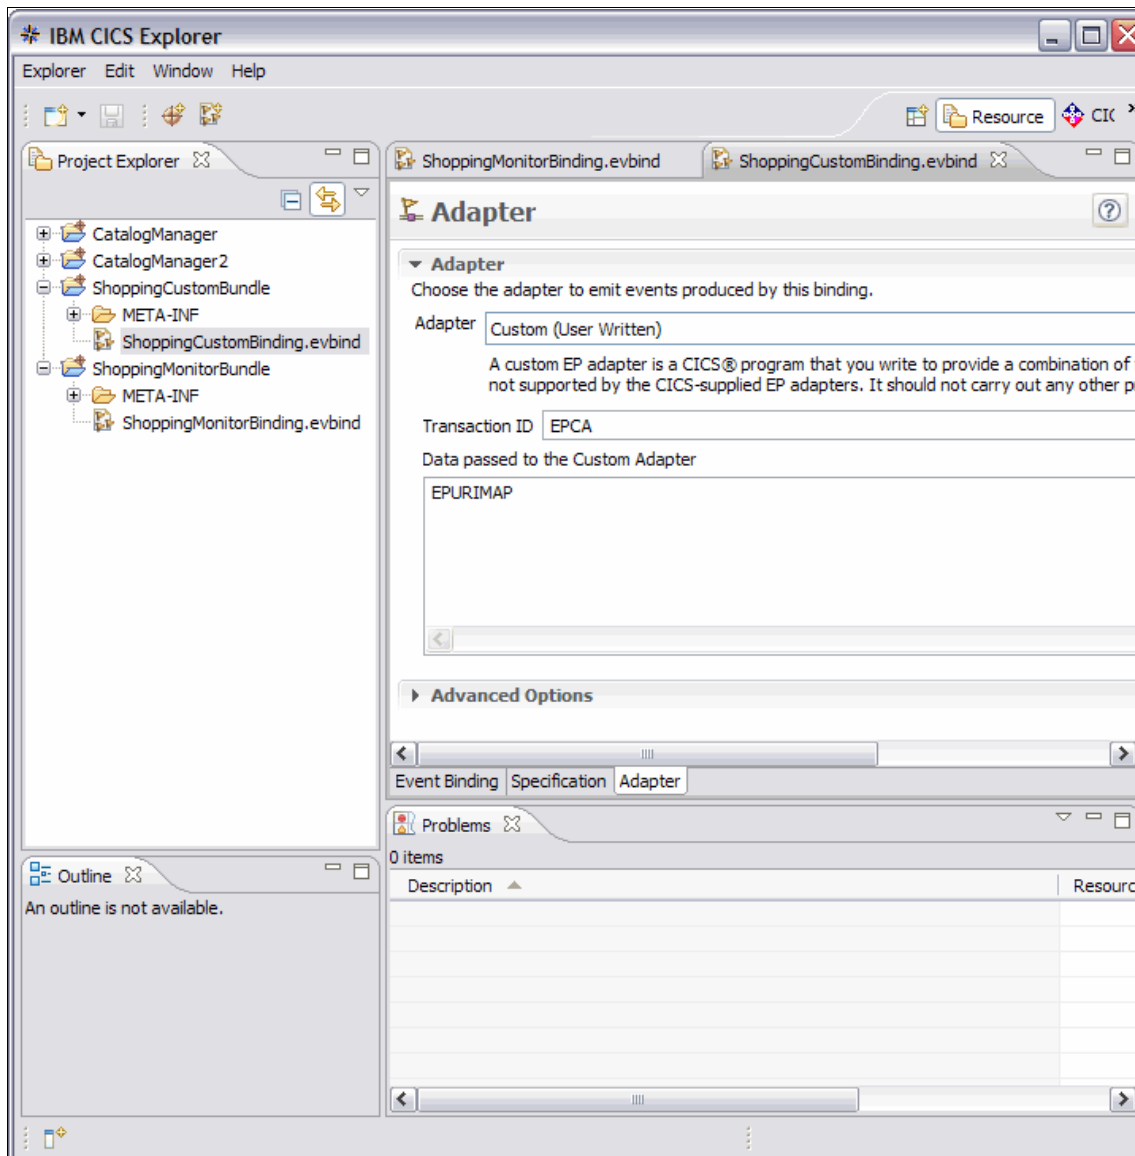

Figure 9-10 Event binding custom EP adapter settings
6. Double-click **ShoppingCustomBinding.evbind** to edit it and select the Adapter tag. See Figure 9-10 on page 326.